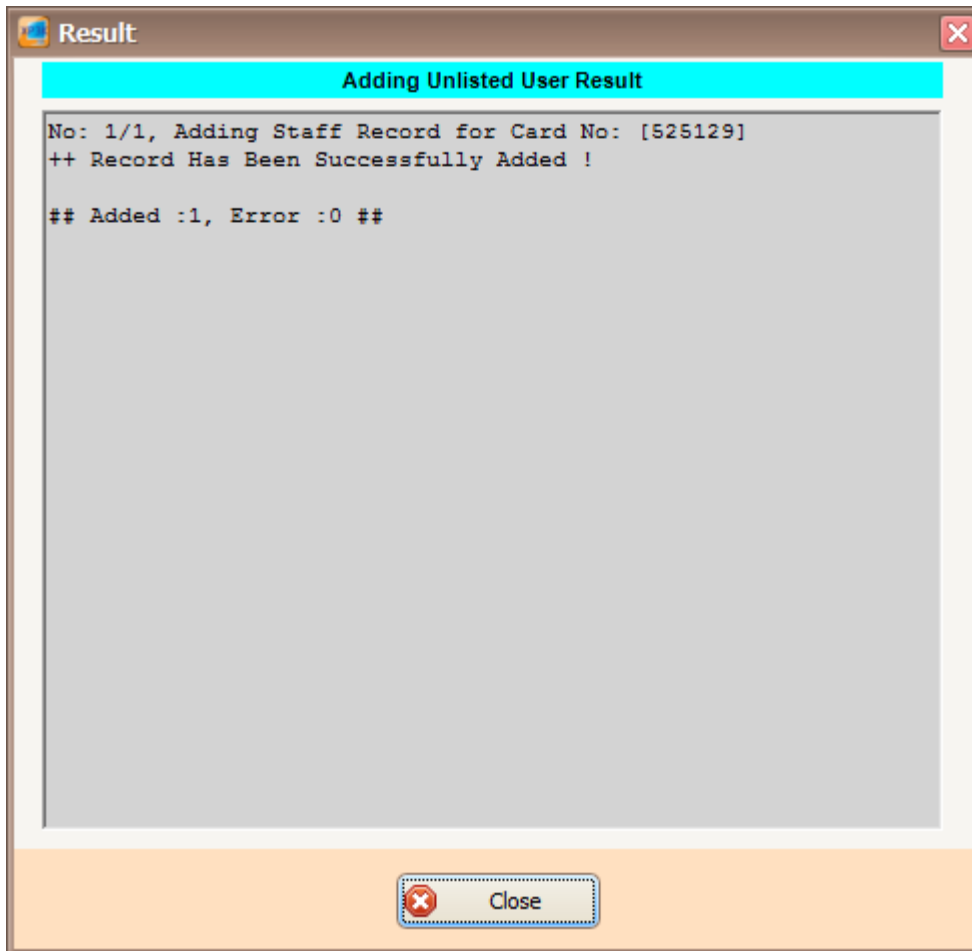
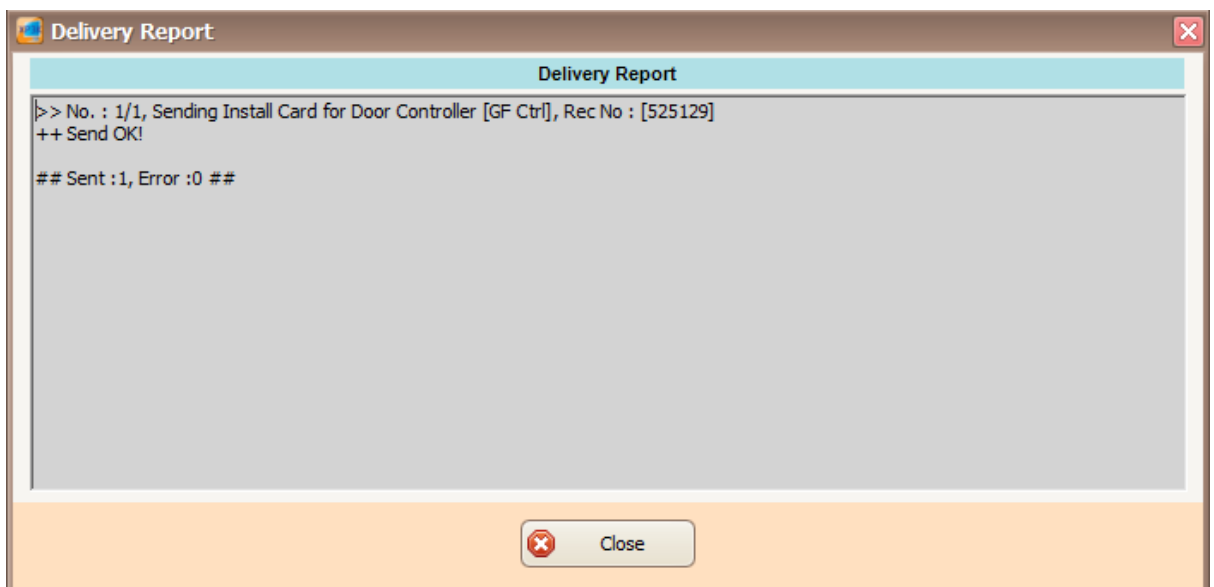

Figure 213 - Adding Unlisted User Result
Figure 214 - Delivery Report (Install User)
16. After downloading all the settings, it will display a report of data being sent. Click Close to return to Staff Detail Setup menu (Refer **Figure 213 and Figure 214**).